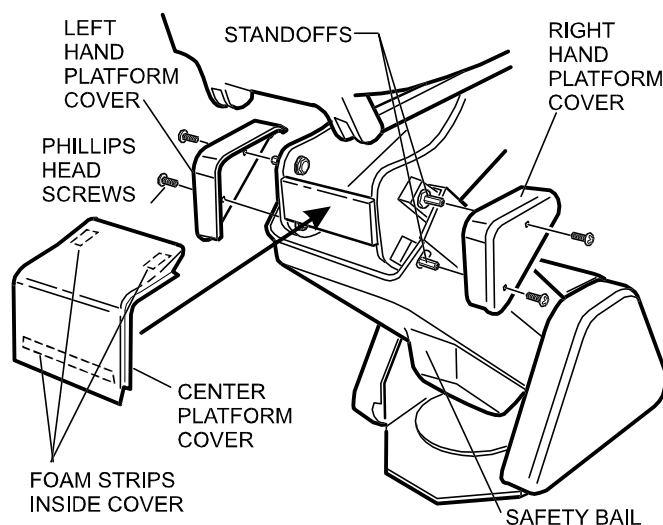

**Figure 6**
1. Remove the four phillips head screws from the standoffs on both sides of the frame (See Figure 6).
**WARNING:** After the covers are installed, check the Safety Bail (See Figure 6) and make sure it moves freely up and down to operate the base safety switch. This is important for safe and proper chair operation.